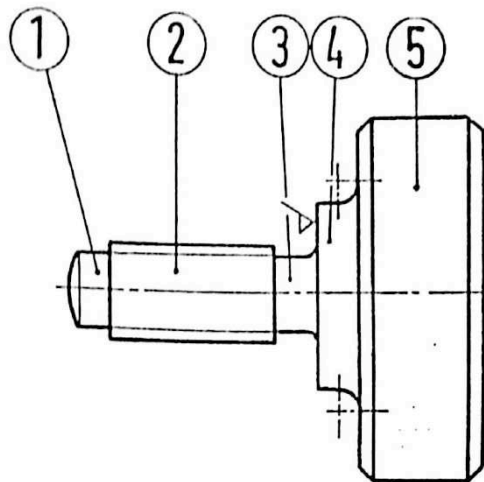

FIG. 4 FIGOR 4
4. (a) Using the data table below, make a fully dimensioned drawing, showing all specifications, of the adjusting screw shown in Fig. 4. Use the shoulder indexed  $\sqrt{\quad}$  as the datum.